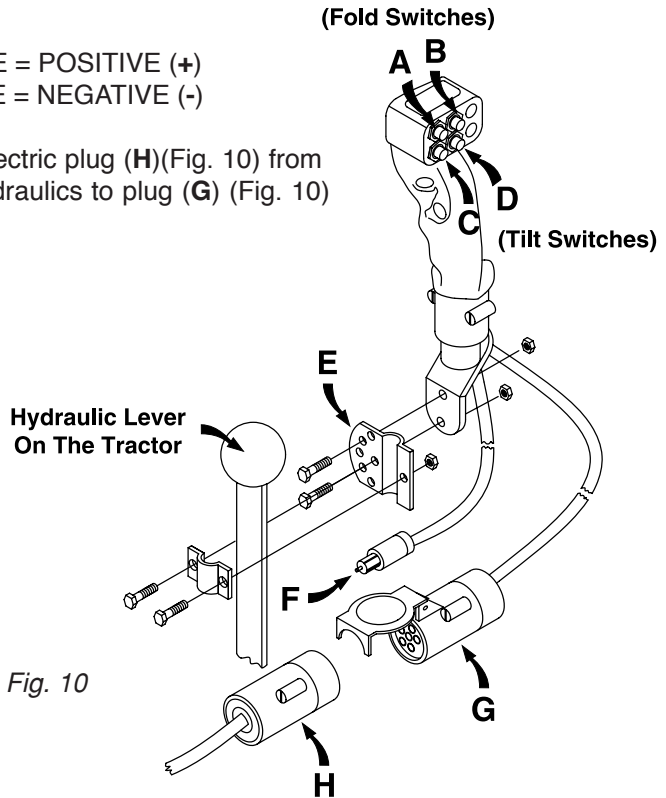

Fig. 10
1. Attach the control handle to the hydraulic lever that operates the double acting outlet you intend to use (Fig. 10). The universal mounting bracket (E)(Fig. 10) is very flexible and a number of different mounting positions can be used.
2. Connect plug (F)(Fig. 10) to the tractor's 12V power system. Try to hook-up the handle as close as possible to the battery or the starter for a better power supply. HARDI recommends using electric distribution box #817925 to insure a good power supply to various 12V attachments.
3. Connect electric plug (H)(Fig. 10) from sprayer hydraulics to plug (G) (Fig. 10) on handle.